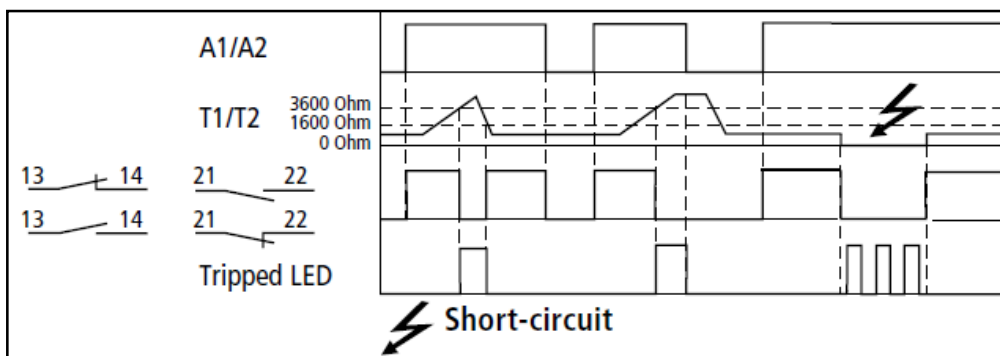

Figure 4.16 Function diagram of automatic reset with short-circuit
- 1) The sensor circuits of the EMT6-K, EMT6-KDB and EMT6-DBK have additional short circuit monitoring in the sensor circuit which immediately switches off the relay when the resistive load of the sensor circuit drops below a minimum value (fig 4.16, 17).